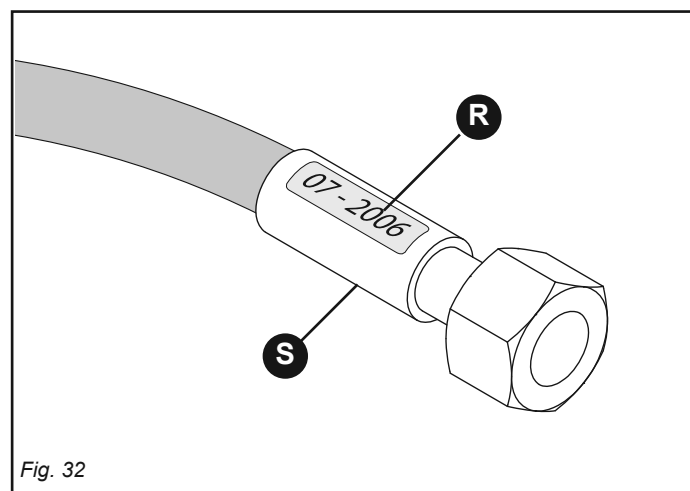

Fig. 32
- Figure 32 (R) shows hydraulic pipes bearing the year of manufacture as an example.
- when leaks are identified near the pipe sheath (S, Fig. 32);
- when the sheath is corroded (S, Fig. 32);
- 5 years after their manufacture (R, Fig. 32).
During all maintenance operations on moving parts, it is important to grease all the points indicated in figure 32 before starting the machine.